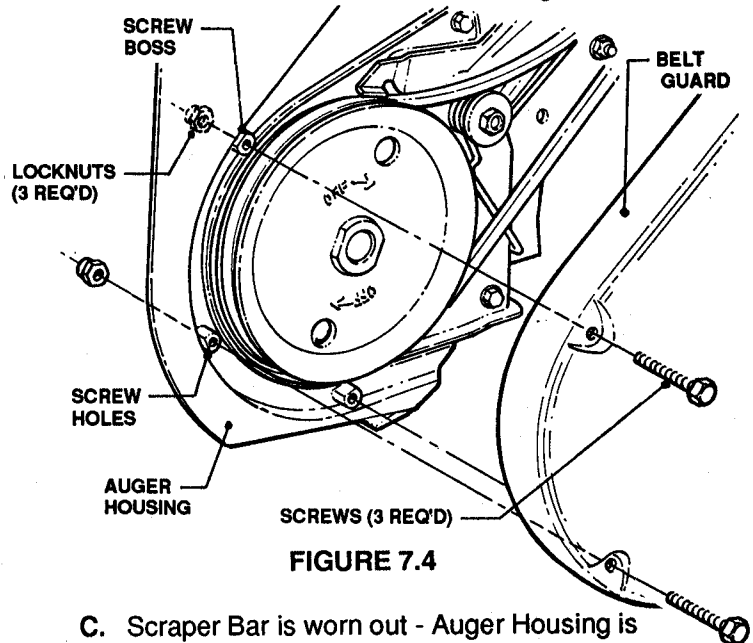

FIGURE 7.4
- (1) Remove three (3) screws from front and two (2) muffler nuts from rear of Belt Guard. Remove Belt Guard.
- (2) Drill through screw holes in bosses on Auger Housing.
- (3) Fasten Belt Guard to Auger Housing with screws and locknuts in front, then replace muffler nuts in the rear. See Figure 7.4.